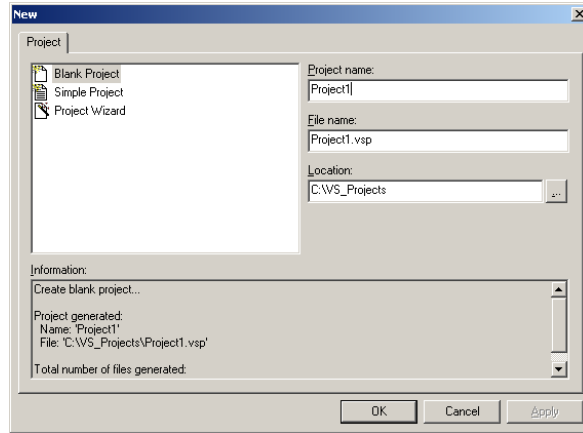
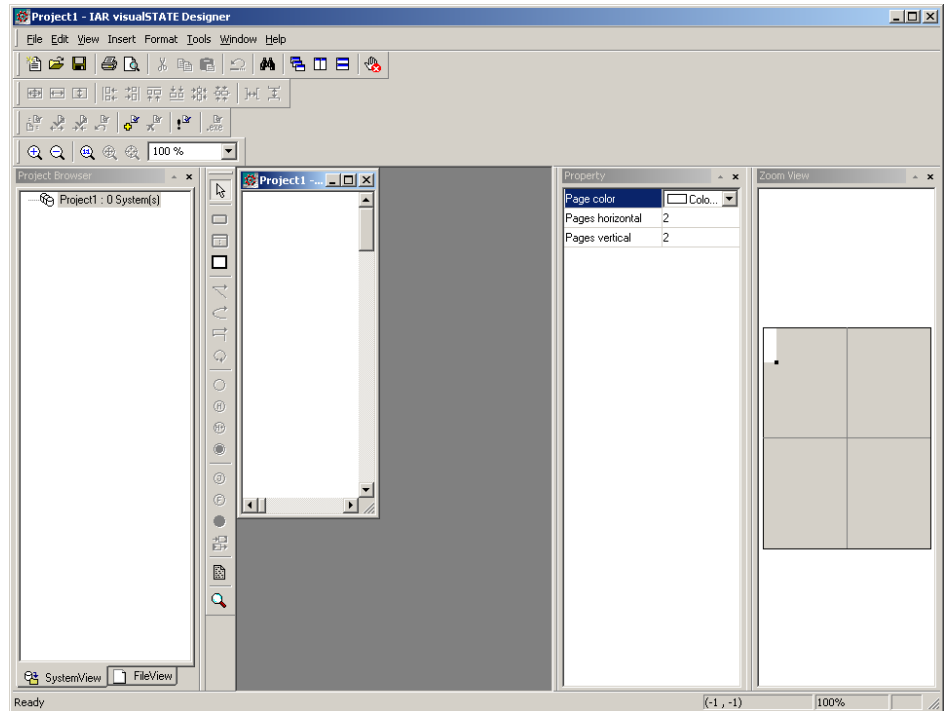

Figure 79: New dialog box
Figure 80: Designer with blank Project
- 1 Choose File>New on the menu, or click the New button. See *Figure 79*, page 98.
When you have selected *Blank Project* in the New dialog box (see *Figure 79*, page 98), the Project will be created in the Designer, as shown in *Figure 80*, page 99.